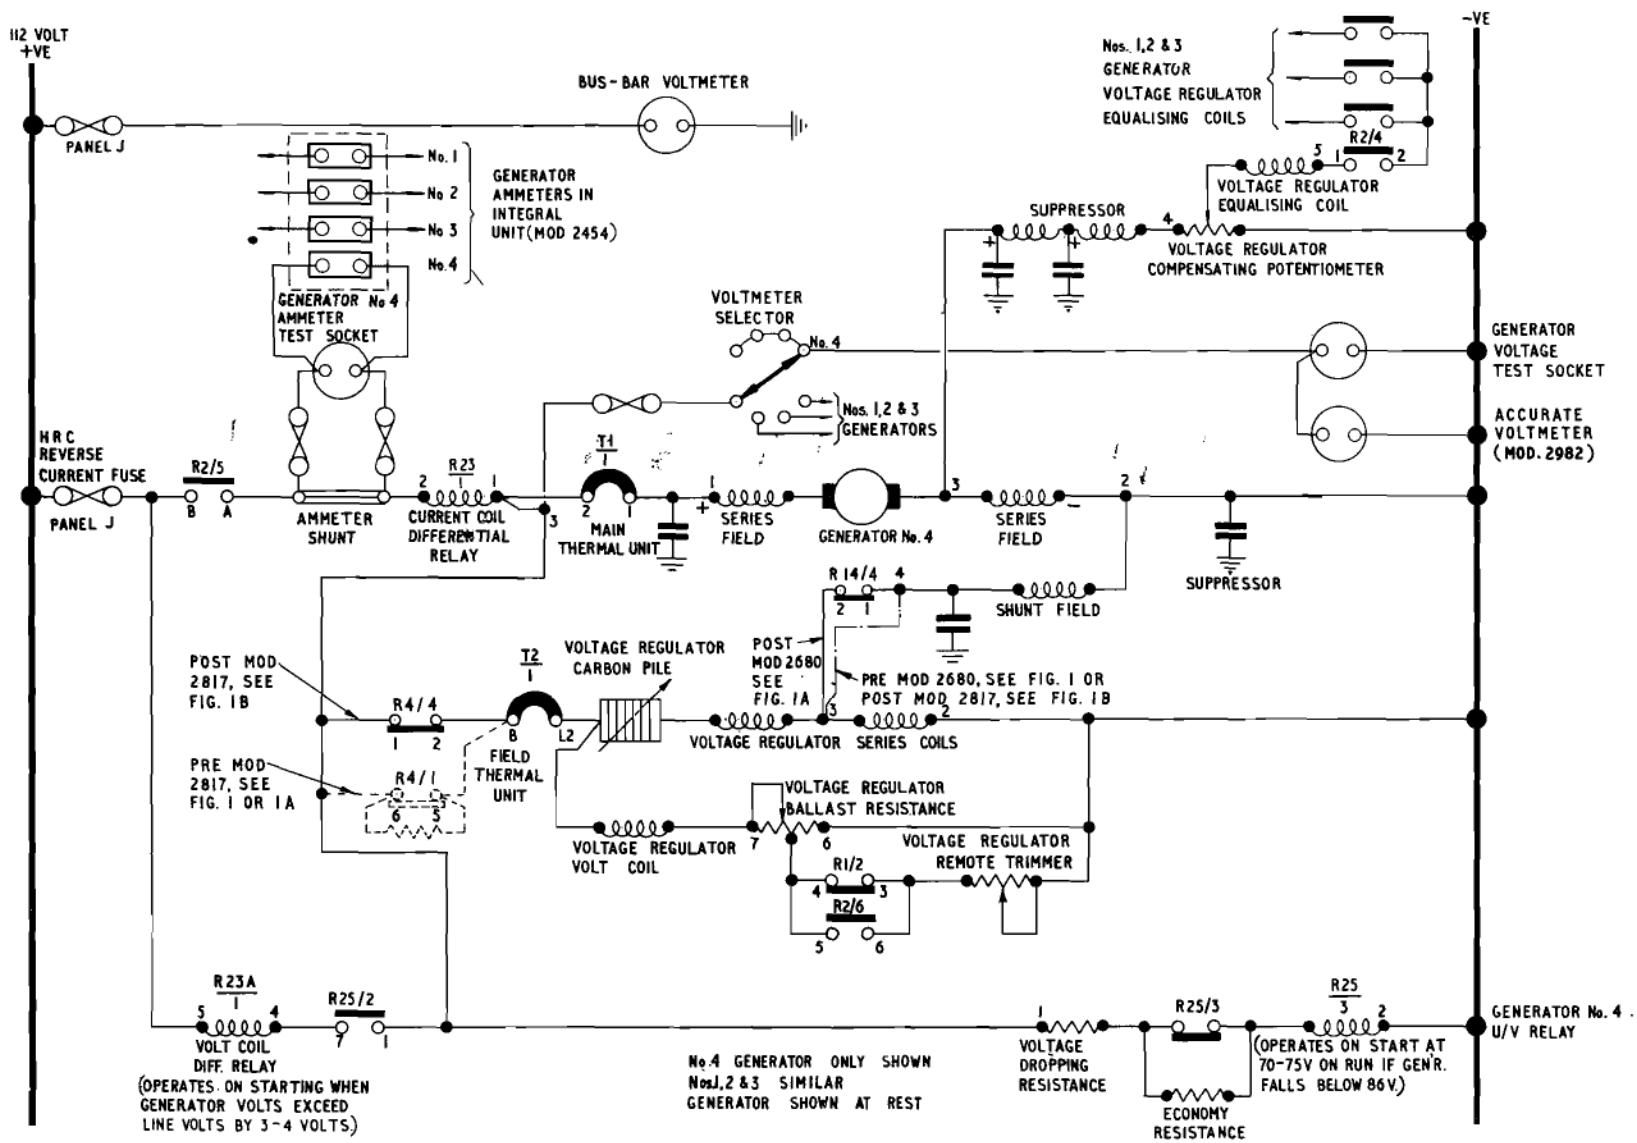

Fig. 2. Generator control system (2) (post Mod 2240 pre. Mod 2933)
29. Mod. 2259 introduces an inertia switch, and Mod. 2680 introduces a crash contactor (Latched contactor B.T.H. LDA 50-A4), in the shunt field line of each generator. The four inertia switches are mounted in the nosewheel bay and operate independently to connect supplies from the essential services fuses to the trip coils R14A of the crash contactors via their ballast resistances and contacts R14/1. The contactors operate to break R14/A (fig. 2) the shunt field circuits of their associated generators. The generator volts are thereby reduced and in consequence the undervolt relays will trip them off-line. The auxiliary contacts R14/2 close to prepare the reset coil line. Once the contactors have been operated, they remain latched and keep
30. The system is basically similar in operation to pre-Mod. 2817 except that the contactors now combine the function of the field relays with that of the crash relays and that the resetting is carried out from the generator control switches in lieu of the reset switch on panel J. The four inertia switches operate independently to connect supplies from the essential services bus-bar to the trip coil R4A of the crash contactors via their ballast resistances and auxiliary contacts R4/1 (see note to para. 24). The contactors operate to open-circuit R4/4 (fig. 2) the shunt field circuits of their respective generators thereby allowing the voltage to fall to a minimum and in consequence the undervolt relays will trip them off-line.
Voltmeter and ammeter (fig. 2)
Accurate voltmeter (fig. 2) (Mod. 2982)